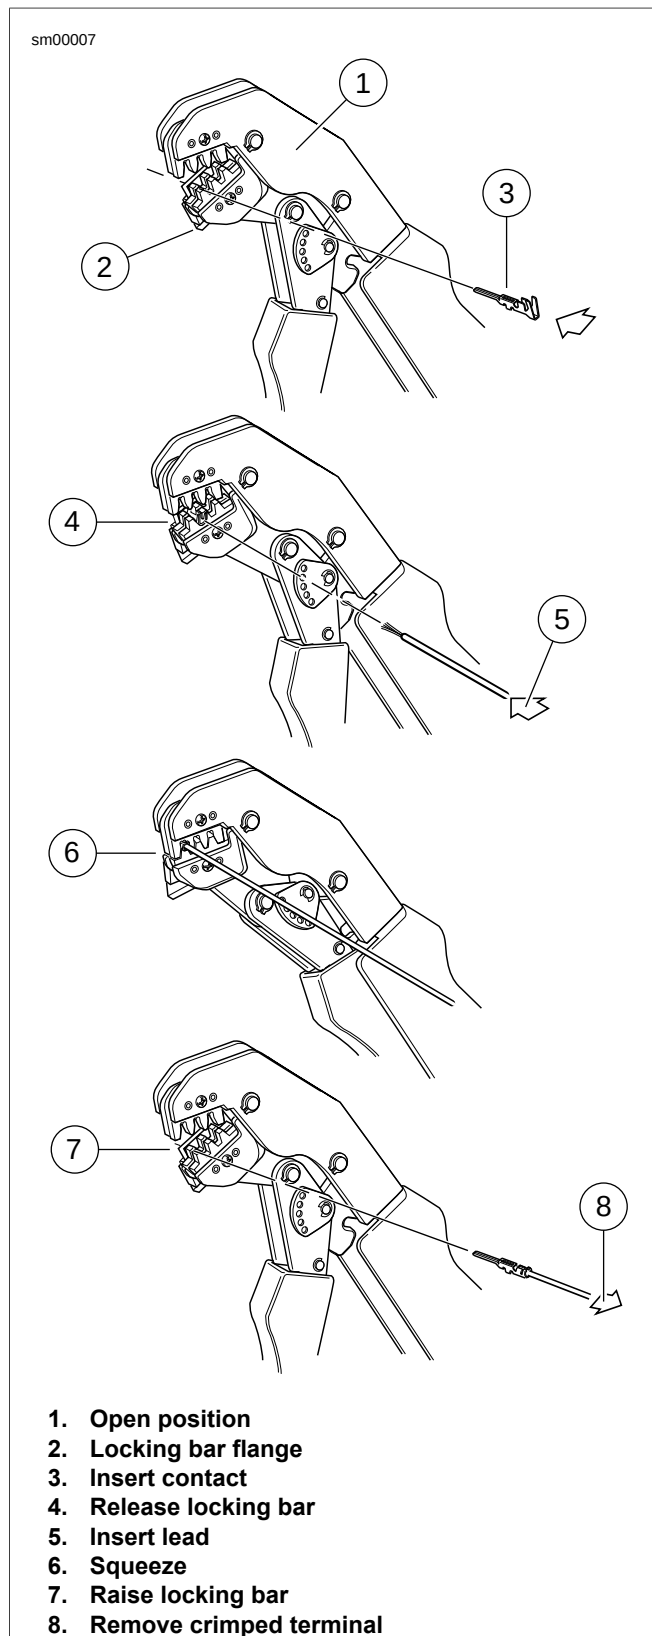

Figure A-63. Tyco 070 Multilock Unsealed Connector: Terminal Crimping Procedure
- See Figure A-63. Squeeze the handles to cycle the AMP MULTI-LOCK CRIMPER (Part No. HD-41609) to the fully open position (1).
- Raise locking bar by pushing up on bottom flange (2).
- See Figure A-63. With the insulation crimp tail facing upward, insert terminal (pin or socket) (3) through the locking bar, so that the closed side of the terminal rests on the nest of the crimp tool.
- Release locking bar to lock position of contact (4). When correctly positioned, the locking bar fits snugly in the space at the front of the core crimp tails.
- Insert stripped end of lead (5) until ends make contact with locking bar.
- Raise up locking bar (7) to remove crimped terminal.